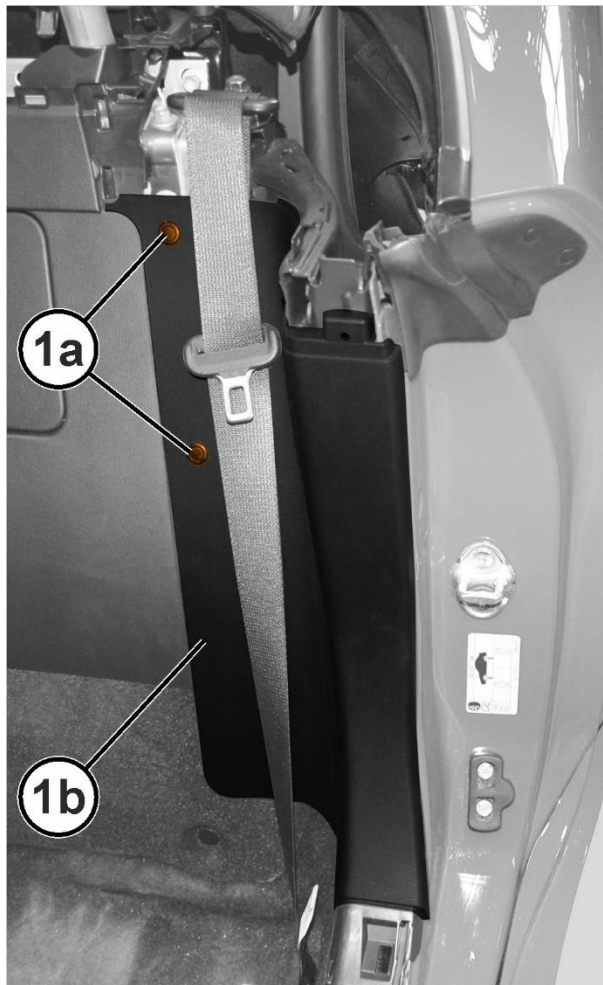

Figure 14 – B-Pillar Trim
27. Remove the fasteners (1a) of the B-pillar trim (1b) (Figure 14).
28. Remove the B-pillar trim (1b) from both sides of the vehicle (Figure 14).